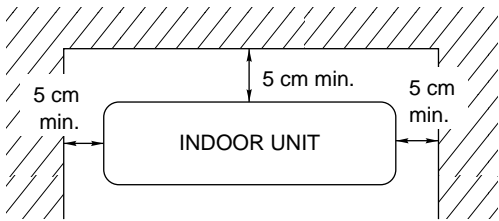

Fig.1
- allow room for operation and maintenance as well as unrestricted air flow around the unit. (Fig. 1)